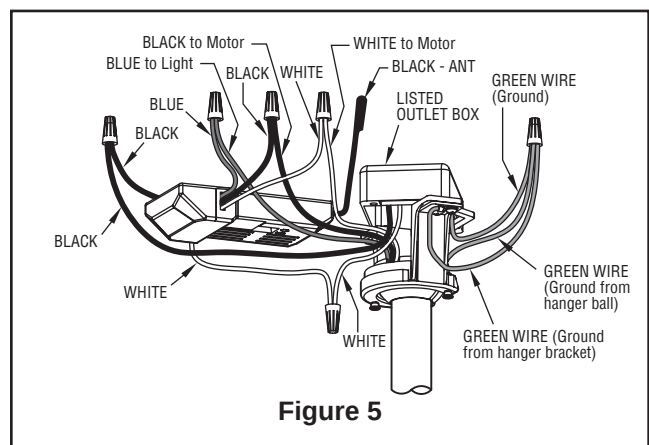

Figure 5
- ☐ 5. Reinstall the hanger ball on the downrod as follows. Route the three 80-inch wires through the hanger ball. Position the pin through the two holes in the downrod and align the hanger ball so the pin is captured in the groove in the top of the hanger ball. Pull the hanger ball up tight against the pin. Securely tighten the set screw in the hanger ball. A loose set screw could create fan wobble (Figure 5).
- ☐ 4. Connect green wires from hanger bracket and hanger ball to bare (ground) wire using wire connector supplied. Connect black wire from receiver unit marked "AC IN L" to black supply wire using wire connector supplied. Connect white wire from receiver unit marked "AC IN N" to white supply wire using wire connector supplied. Connect white wire from receiver unit marked "TO MOTOR N" to white wire from fan using wire connector supplied with receiver. Connect black wire from receiver unit marked "TO MOTOR L" to black wire from fan using wire connector supplied. Lastly, connect blue wire from receiver to the blue fan light wire using wire connector supplied. Position all connected wires and receiver antenna to allow installation of ceiling canopy (Figure 5).
- ☐ 5. Twist on Lower Light Kit Cover by aligning pin slots in Upper Light Kit Plate (Figure 5).